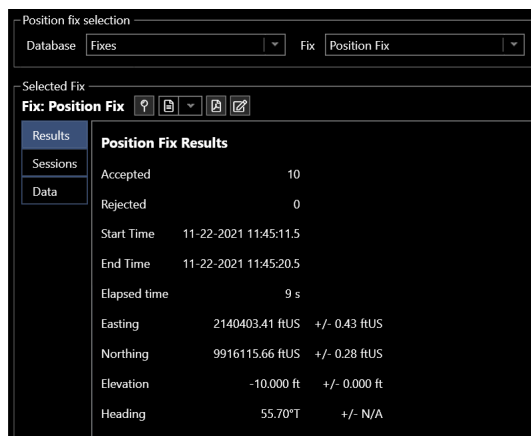

FIGURE 14-133 POSITION FIX QUERY RESULTS EXAMPLE
2. The selected position data will then be used to populate Selected Fix panel as shown in Figure 14-133. For details regarding working with the data from this view, refer to and Position Fix Data View